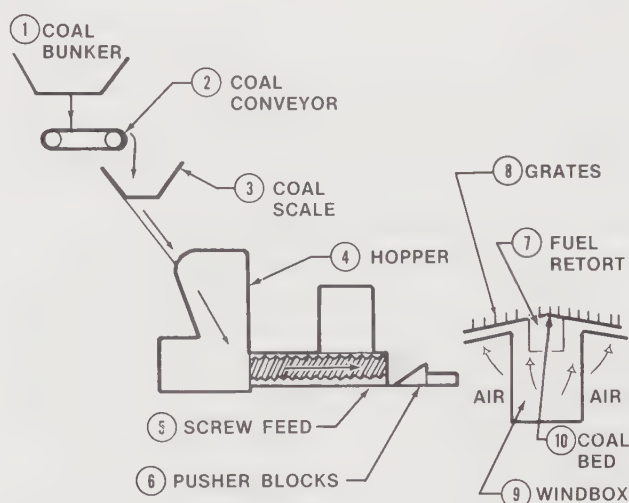

Figure 3-7. The underfeed stoker feeds coal to the furnace, mechanically obtaining a higher rate of combustion efficiency than is possible with hand firing.
Underfeed Stoker. The underfeed stoker supplies coal to the furnace from under the coal bed. See Figure 3-7. This stoker consists of a coal bunker (1) for the storage of coal. From the bunker, the coal is moved by the coal conveyor (2) to the coal scale (3).